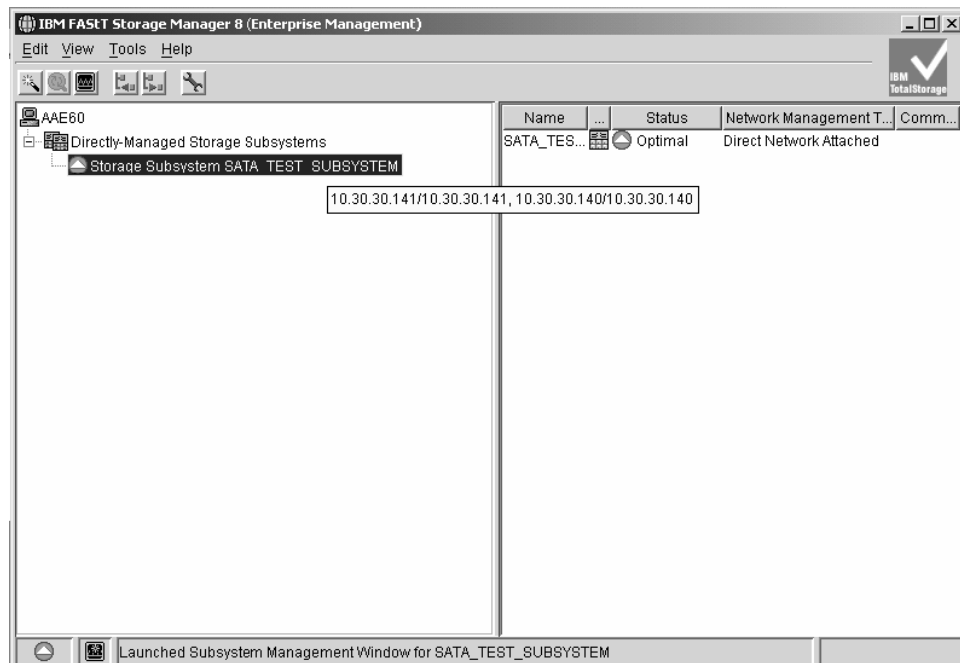

Figure 71. Only one entry appears in the Directly-Managed Storage Subsystem tree
- If controller A starts up successfully after synchronizing with the firmware and NVSRAM in controller B, controller A and controller B will be displayed as a single entry under the Directly-Managed Storage Subsystem tree in the Enterprise Management window as Figure 71 shows. Right-click the entry for controller B and select **Manage Device**. A Subsystem Management window should open without being preceded by the Partially Manage Device window.